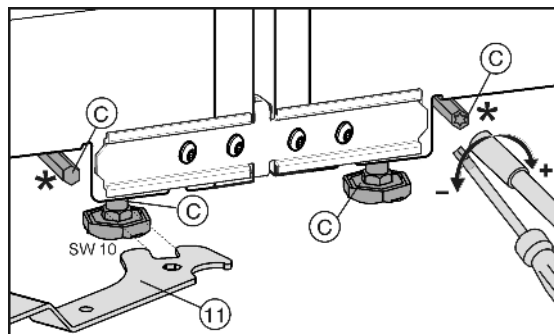

Fig. 8
You can adjust the front height-adjustable feet with the open-ended spanner Fig. 8 (11) included in the supply package, and the rear height-adjustable feet\* with a Torx® 25 screwdriver.